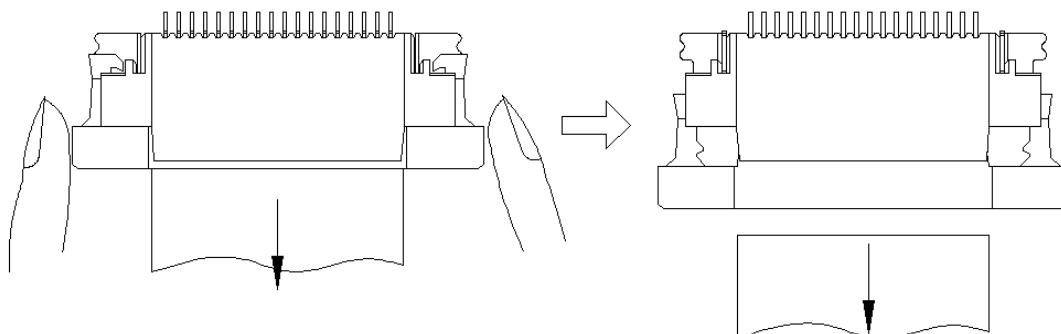

Figure 5.
- 1) Seize the actuator(Lock) to pull out. Use thumb and index finger. (see figure 5).
- 2) Carefully withdraw the FPC/FFC. (see figure 5).